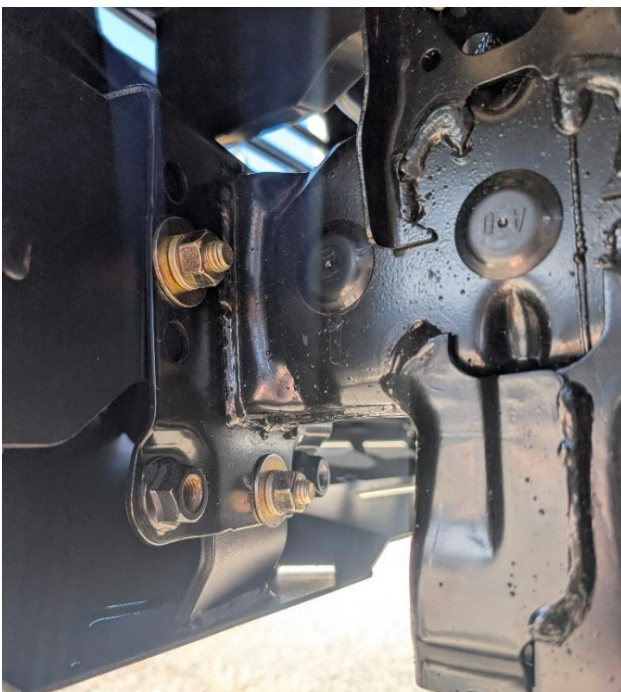

Figure 47
33. With assistance, hold the bumper up to the frame and use the provided (6) 7/16" bolts washers and nuts to fasten it to the truck. (Figure 47). Plug in the wiring harness and fully tighten all mounting hardware.